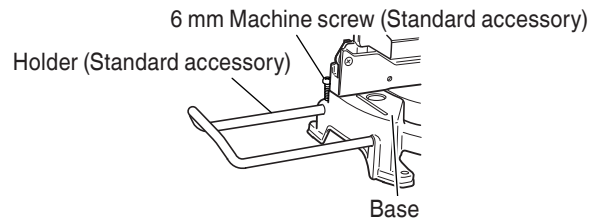

Fig. 9
- As indicating in Fig. 9, installing the holder in the holes on the side of base and fasten it with 6 mm machine screw (Standard accessory).